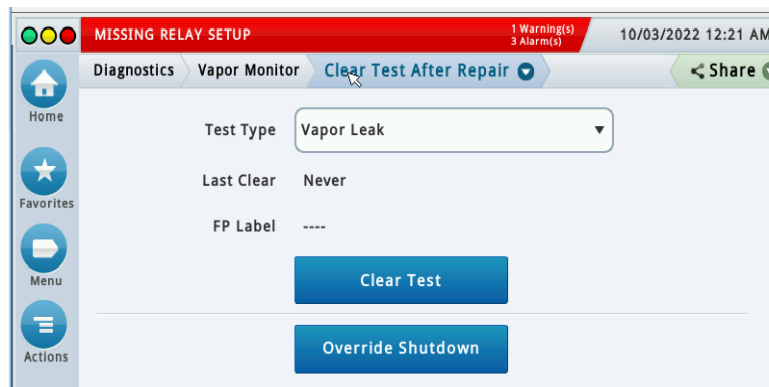

Figure 60. Clear Test
3. Touch the **Clear Test** button to clear the test (Figure 60).